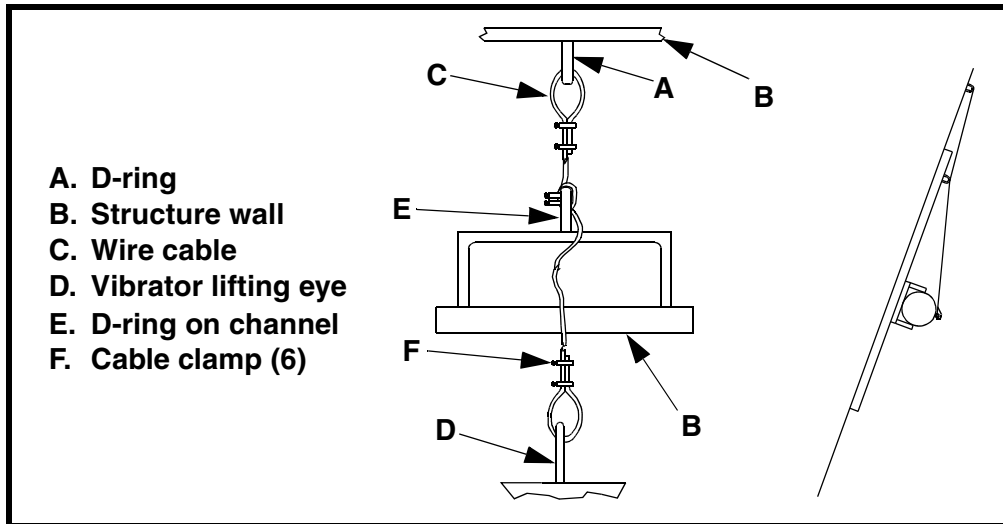

Figure 4. Installing Restraining Cable
- Weld D-ring (A, Figure 4) onto structure wall (B) above vibrator.
- Loop 1/4-in. (6 mm) wire cable (C) through vibrator lifting eye (D) and D-ring on structure wall.
- If using a mounting plate and channel assembly, also loop cable through D-ring on channel (E) as shown. Take up slack so cable is taut.
- Apply thread-sealing compound to nuts on cable clamps (F). Install six cable clamps (two on each end and two on loop around D-ring on channel) to secure cable to vibrator eye and D-rings. Tighten nuts on cable clamps.